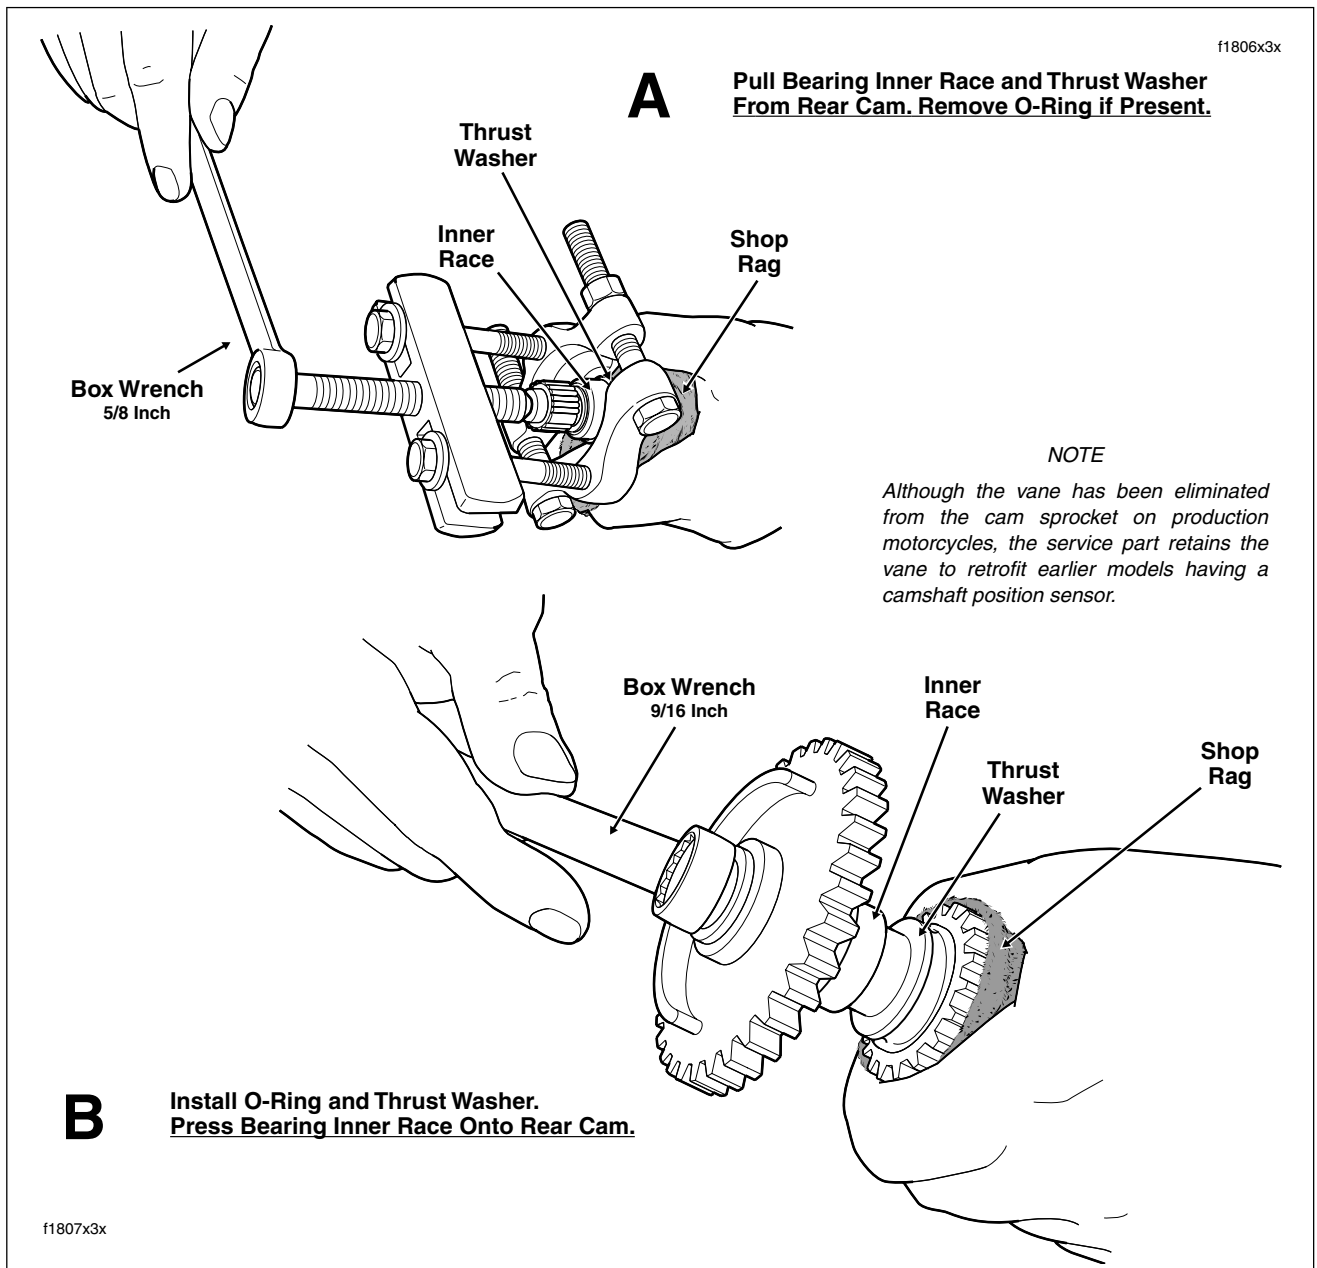

Figure 3-108. Remove/Install Bearing Inner Race (With O-Ring and Thrust Washer) Onto Rear Camshaft
- d. Using a 5/8 inch box wrench, turn forcing screw until bearing inner race and thrust washer are pulled free of camshaft. See A of Figure 3-108. A light interference fit allows the parts to be removed with little effort. Discard inner race and thrust washer.
- e. Wrap a shop rag around camshaft to get a firm grip and also to protect hand from sharp edges of sprocket. Using a 9/16 inch box wrench, turn flange bolt in a clockwise direction. Bearing inner race is fully installed when it makes firm contact with the thrust washer. See B of Figure 3-108.